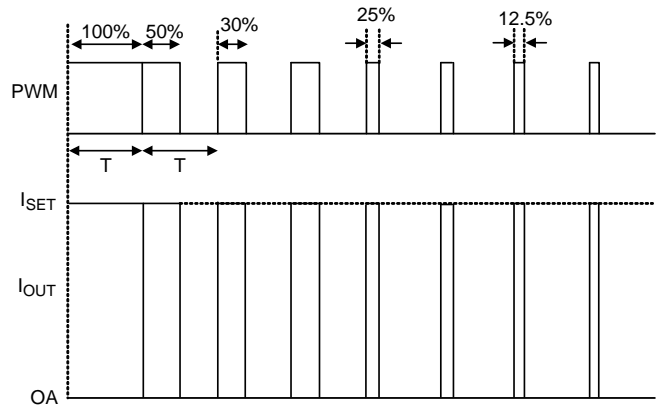

Figure 3. LED Current Control Using PWM Dimming Mode (MODE = Floating)
**PWM Mode Dimming :** When the MODE pin is set to float, the dimming mode operates in PWM Mode (Figure 3). During the PWM dimming, the current source turn-on/off is synchronized with the PWM signal. The LED current frequency is equivalent to PWM input frequency.